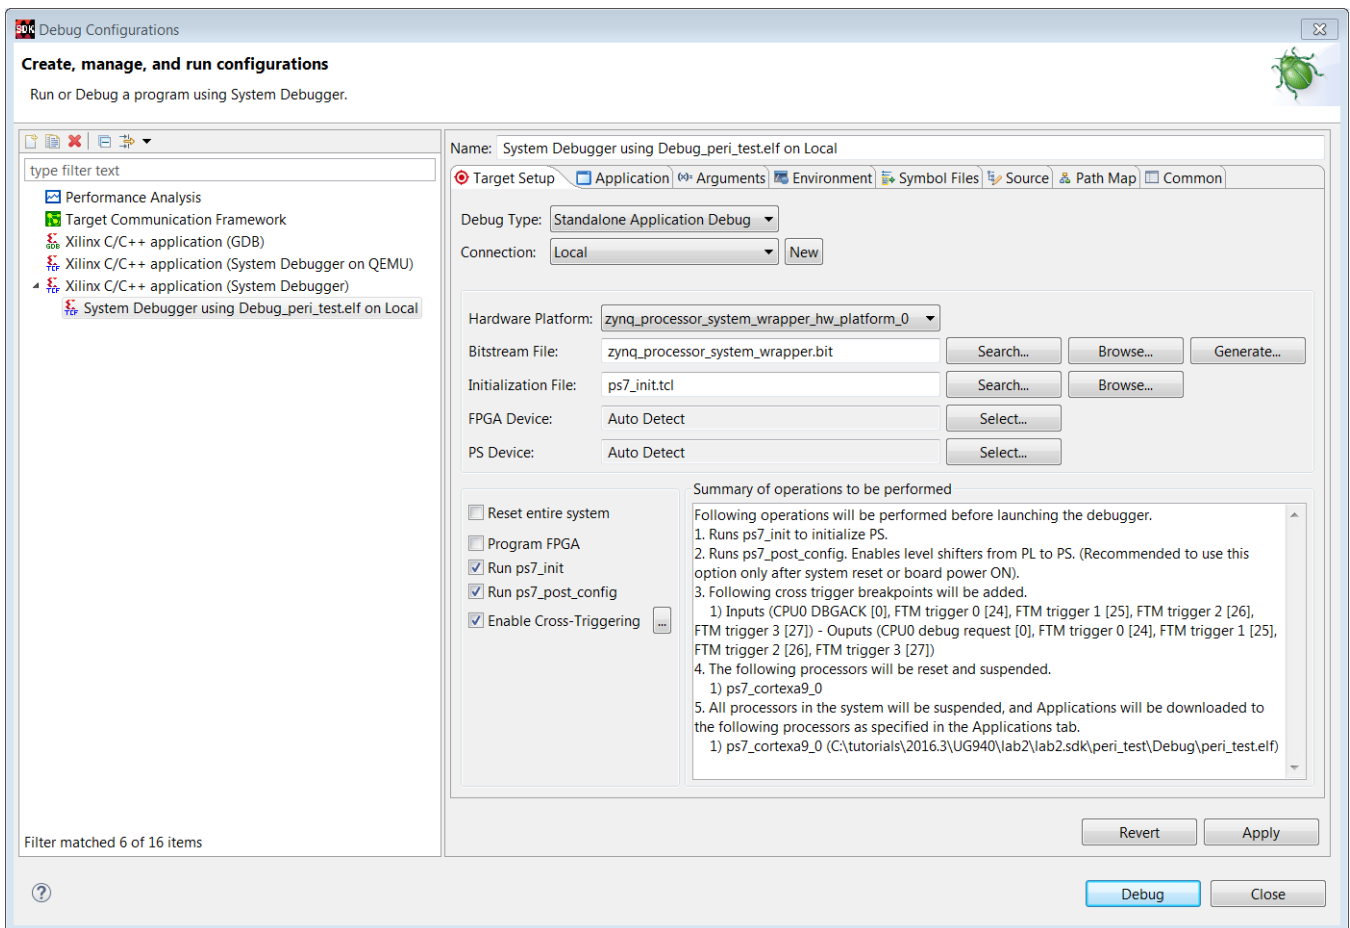

Figure 69: Debug Configurations dialog box after setting breakpoints
20. In the Debug Configurations dialog box, click **Debug**, as shown at the bottom of Figure 69.